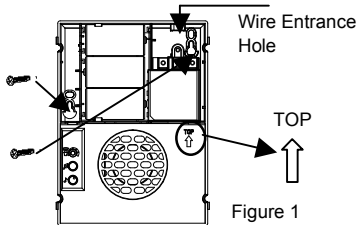

Figure 1
Install the Door Chime (Refer to Figure 1)
Position the chime as shown in Figure 1. (The chime base can also be installed in the horizontal position.) Route the wires as shown and install the chime using the screws provided.
- Position the chime as shown in Figure 1. (The chime base can also be installed in the horizontal position.) Route the wires as shown and install the chime using the screws provided.